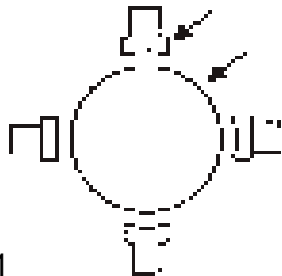

Fig. 1
- Carbon brushes have no contact with the collector (Fig. 1)